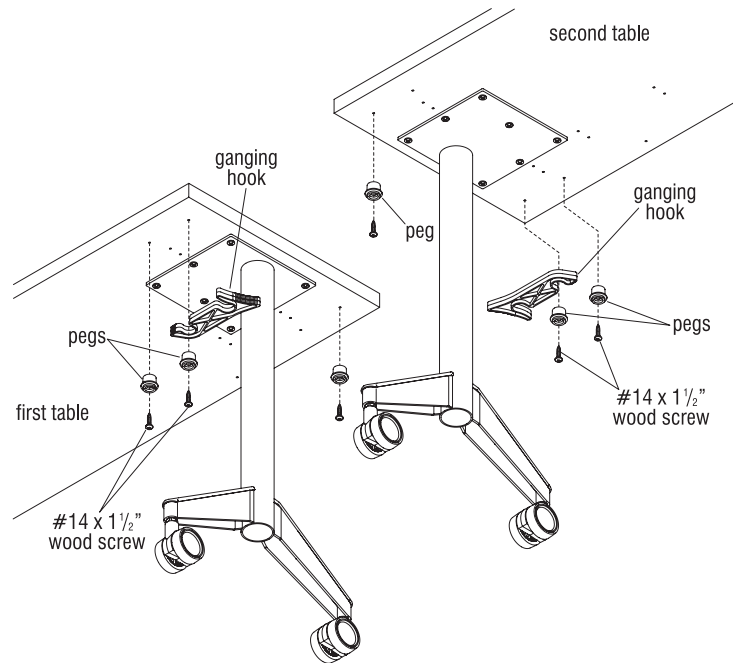

Figure 6 - 18" Fixed-Base Tables with Side-to-Side Ganging
1. As illustrated, and based on the 18" table width, position the two ganging hooks as shown, one at the underside of the first table and one at the underside of the second table, at the opposite side. Install each hook using one peg and a #14 x 1 1/2" wood screw (Figure 6).
2. Next, install four pegs at the other illustrated locations, two for ganging tables together and two for use to store the ganging hooks (Figure 6).